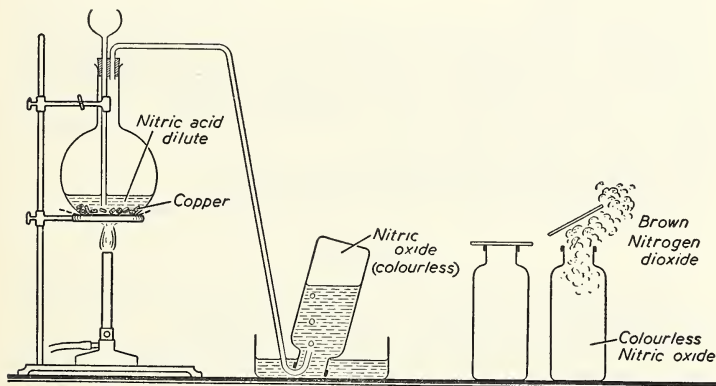

Fig. 80. The laboratory preparation and collection of nitric oxide.
1. Put approximately 20 gm. of copper turnings in a 250 millilitre flask, and set up the apparatus as in Figure 80. Through the thistle-tube, add sufficient dilute nitric acid to cover the copper. The flask may be warmed gently, but if allowed to stand, the reaction will proceed with increasing speed.